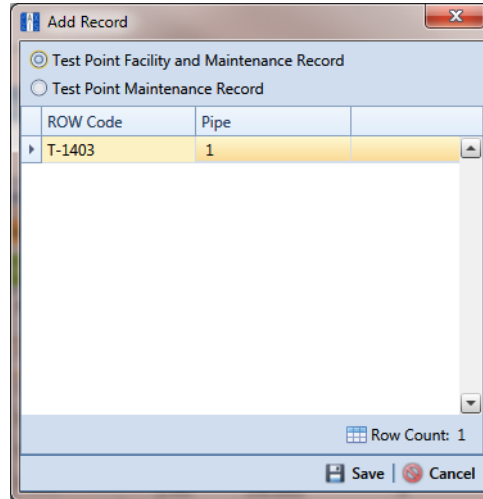

Figure 7-25. Add Record
- a Click the option **Test Point Facility and Maintenance Record** in the *Add Record* dialog box (Figure 7-25).
- b Select a pipeline in the dialog box that you want to add a new facility and maintenance record. For example, pipeline *T-1403* (Figure 7-25).